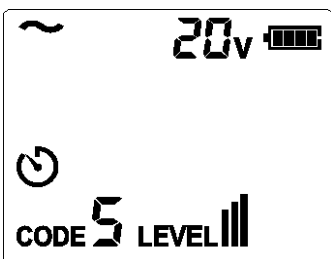

Figure 9.1c AC voltage measurement
6. When the voltage is 8 V ~ 480 V DC/AC (50/60 Hz). If the measured voltage is AC voltage, then the display is as shown in Figure 9.1c.